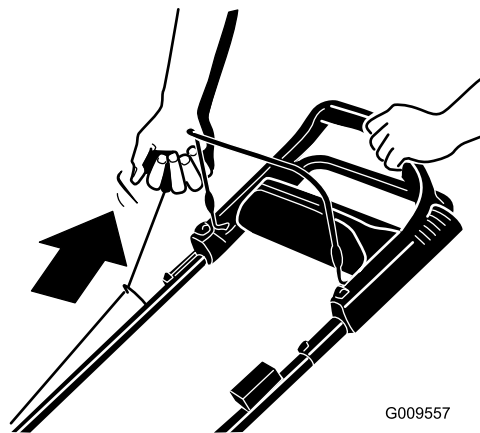

Figure 13
2. Pull the recoil starter lightly until you feel resistance, then pull it sharply (Figure 13). Allow the rope to return to the handle slowly.